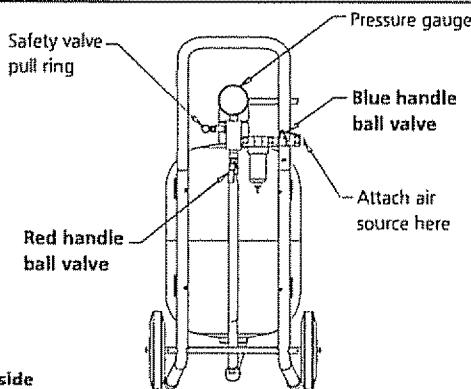

Figure 6 - Backside
5. Open the red handle ball valve on the backside of the tank. This will allow pressurized air to enter the material hose and blast gun (see Figure 6)